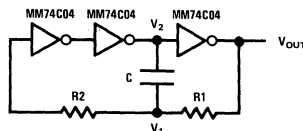

FIGURE 3. Three Gate Oscillator
*Figure 3* illustrates a useful oscillator made with three inverters. Actually, any inverting CMOS gate or combination of gates could be used. This means left over portions